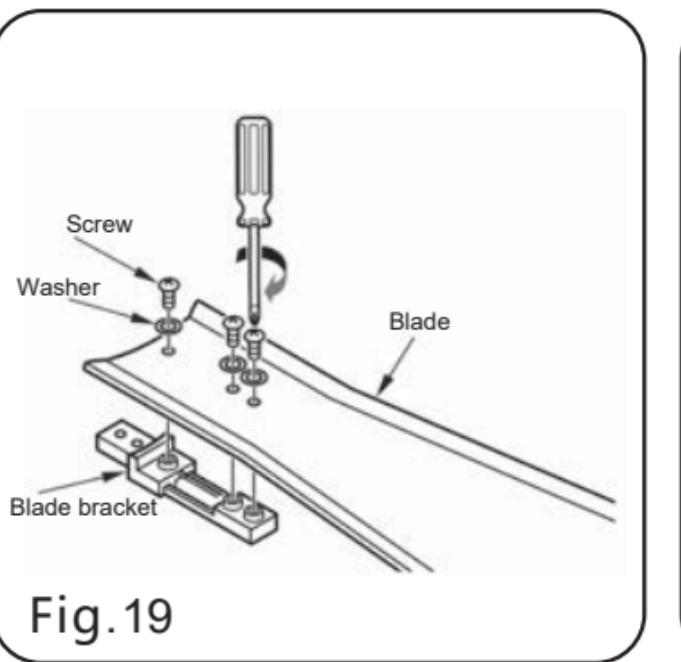

Fig.19
Step1: Attach the blade to the blade bracket using the provided blade screws pack B. (Fig. 19)